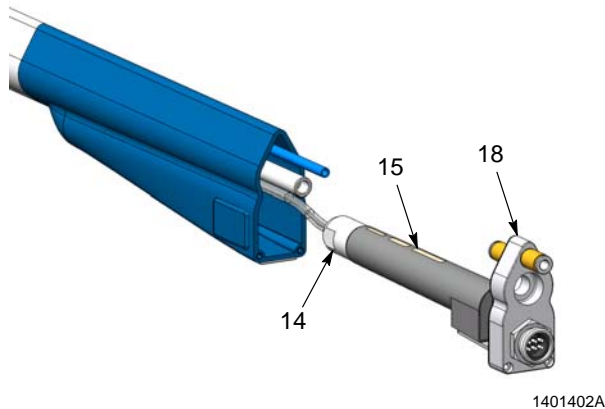

Figure 5 Pulling Multiplier out of Housing
7. See Figure 5. Pull the heat sink (18) and multiplier (15) out of the housing until you can grasp the multiplier nut (14).